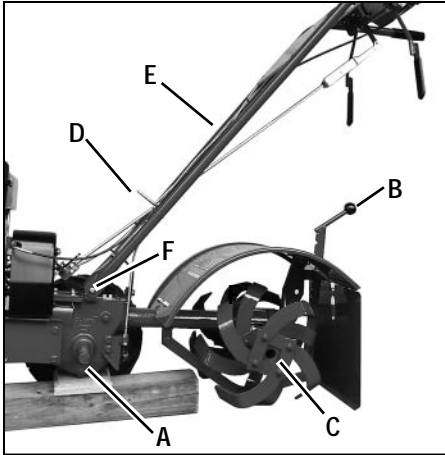

Figure 5-1
Proper lubrication of the tiller is an essential part of your maintenance program. After every 10 operating hours, oil or grease the lubrication points shown in Figure 5-1 as described below.
- Remove wheels, clean wheel shaft (A, Figure 5-1) and apply thin coating of grease to shaft.
- Grease back, front and sides of depth regulator lever (B, Figure 5-1).
- Remove tines, clean tine shafts (C, Figure 5-1) and inspect for rust, rough spots or burrs (especially around holes). File or sand smooth and coat ends of shaft with grease.
- Oil the threads on the handlebar height adjustment handle (D, Figure 5-1).
- Oil the outer casings of the engine throttle cable and the wheel gear cable (E, Figure 5-1). Allow oil to soak in and then wipe off any excess.
- Oil the threads on the handlebar attaching screws (F, Figure 5-1).